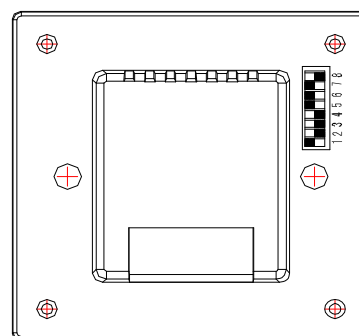

Figure 3
3. Install two fresh “AA” alkaline batteries in battery compartment. Be sure to match positive (+) ends of batteries with positive (+) battery terminals in the battery compartment. See figure 3